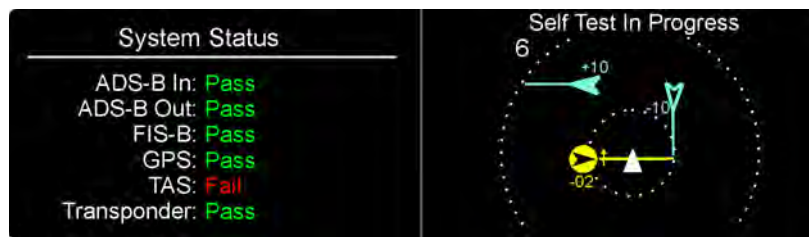

Figure 3-22: Example of System Test Results
5. Press the System Test button located on the left screen. See Figure 3-22. The system test is used to check the operation of external data inputs.
6. During the System Test the user functions are disabled and the right screen shows a preset traffic display with the message “Self Test In Progress” at the top of the screen. See Figure 3-22. The left screen shows the test results of the functional areas indicated and not specific test failures.